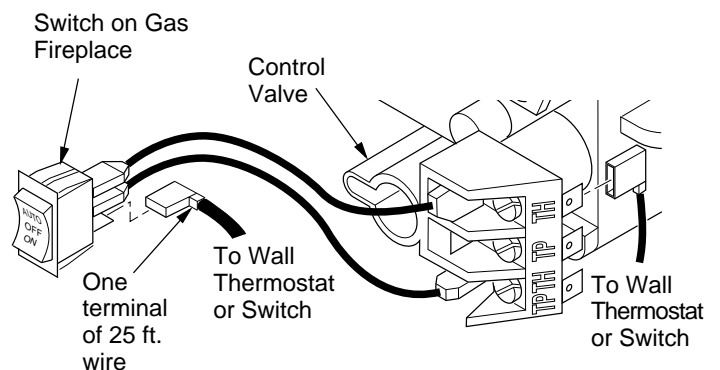

Figure 41 - Connecting Wire Terminals
1. Connect one terminal of 25 ft. wire to bottom contact of switch (see Figure 41).
2. Connect remaining wire terminal to the “TH” terminal on the control valve. Make sure that wire terminals are in the positions on your unit as pictured in Figure 41. If wires are not “crossed” the thermostat will not work.
- Connect one terminal of 25 ft. wire to bottom contact of switch (see Figure 41, page 21).
- Connect remaining wire terminal to the "TH" terminal on the control valve. Make sure that wire terminals are in the positions on your unit as pictured in Figure 41, page 21. If wires are not "crossed" the thermostat will not work.